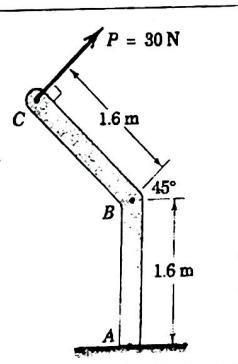
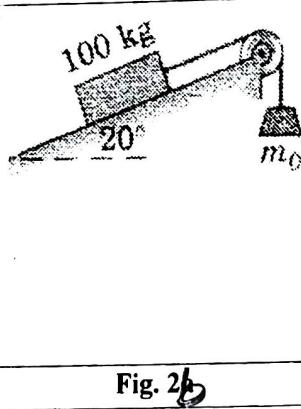

Fig. 2a
Fig. 2b
2. (a) The 30 N force  $P$  is applied perpendicular to the portion BC of the bent bar as shown in Fig. 2a. Determine the moment of the  $P$  about point B and about point A. (b) Determine the range of value which the mass  $m_0$  may have so that the 100 kg block shown in the Fig. 2b, will neither start moving up the plane nor slip down the plane. The coefficient of static friction for the contact surface is 0.2. CO2/1 BL3/2/2 6+6